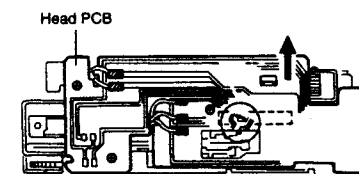

Fig. 28
11. Solder the loading motor and head lead wires to the head relay PCB, respectively. (Fig. 28)